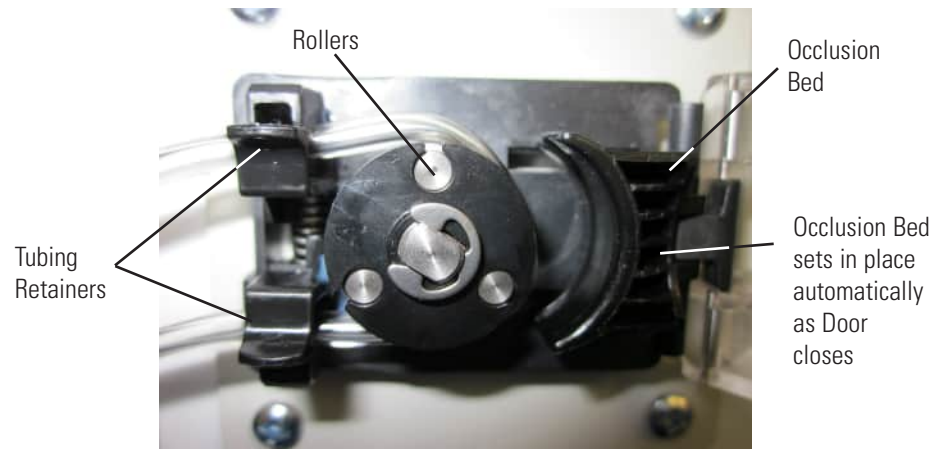

Figure 2-1. Door Open - Occlusion Bed has No Tubing Contact
1. Remove the 4 screws (see Figure 2-1) on the face of the unit holding the pump mounting plate in place. Retain the 4 screws for reassembly.
3. Occlusion Bed releases automatically when Door is opened, Figure 2.1.
4. After cutting the desired length of tubing, place the tube onto the rotor allowing the tube to naturally curve around the rotor. Insert one side of the tubing into tube retainer by moving the retainer toward the center of the pump and placing tubing in the v-notch of the retainer. Release the retainer so that the tubing is secured in place. Repeat for the other Tubing Retainer. The tubing should be stretched slightly around the rollers so that there is no excess tubing between the Rollers and Retainers, Figure 2-1.